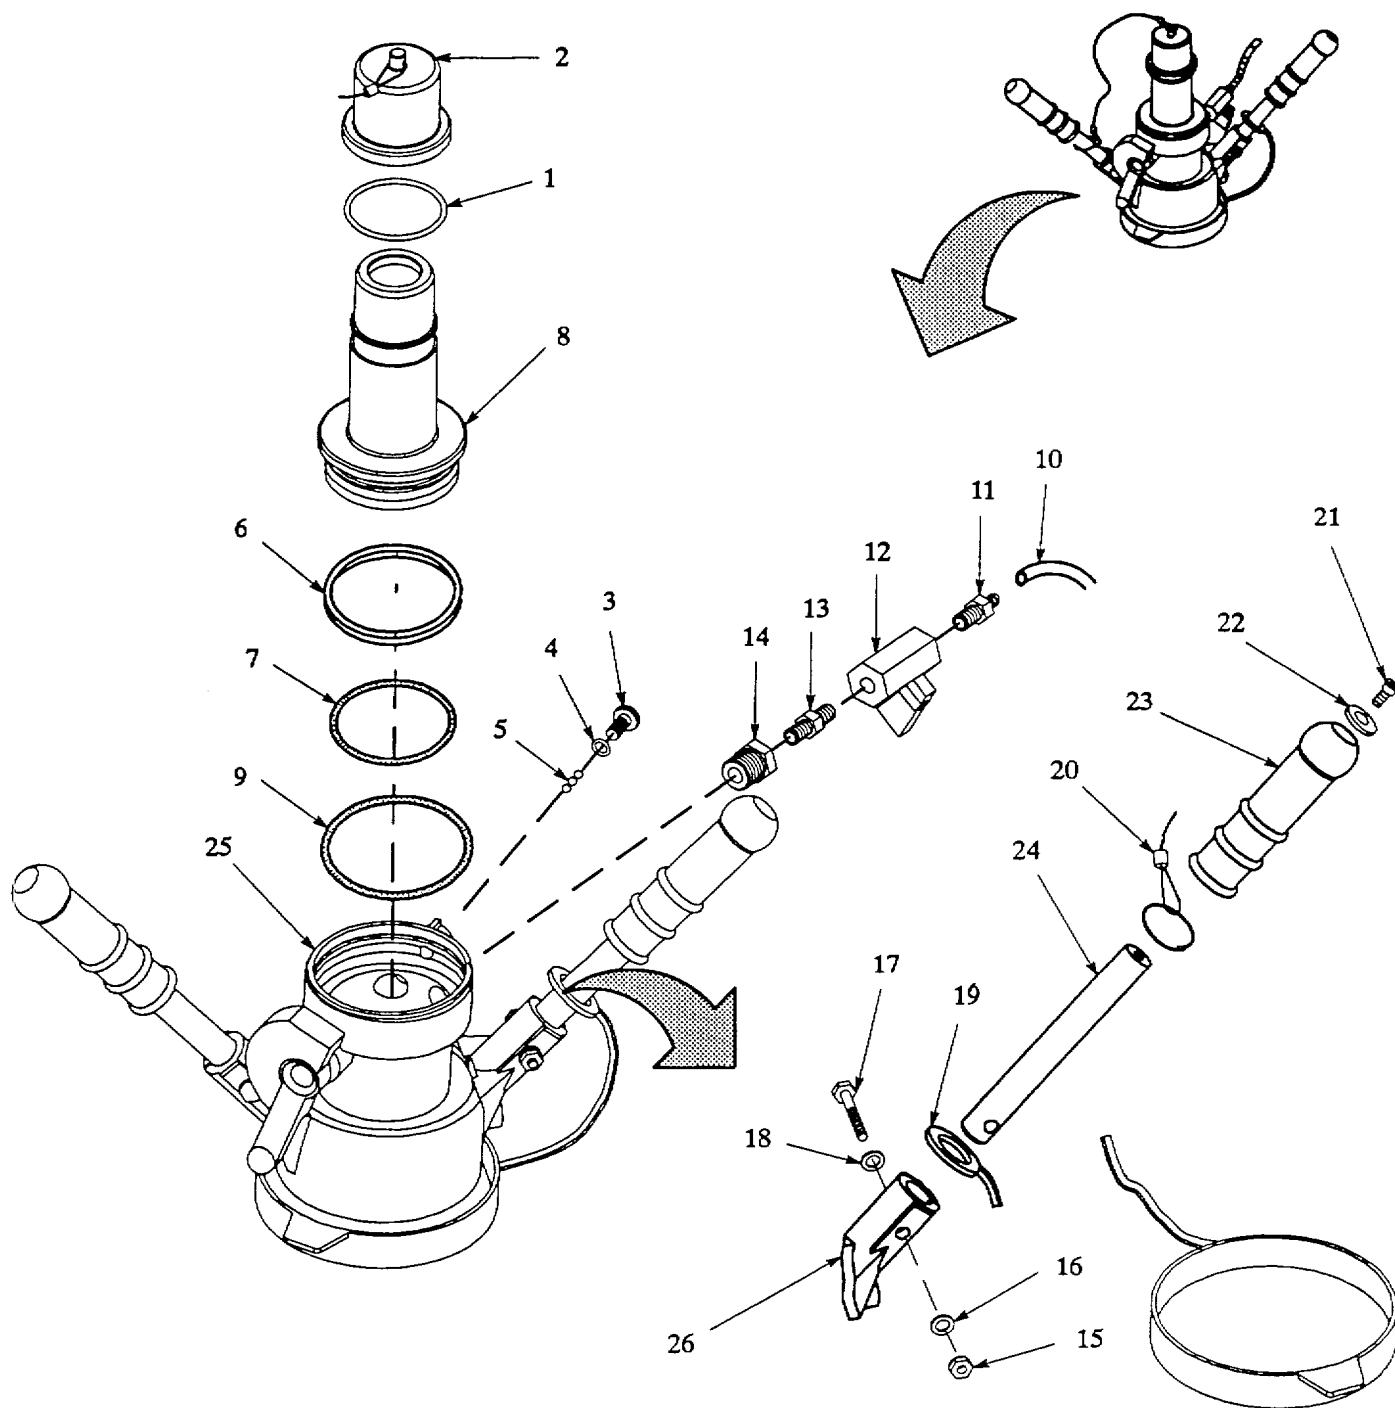

Figure 4-5. Recirculation Nozzle Assembly.
c. Inspection. Refer to figure 4-5.
- (1) Inspect inlet adapter (8) for cracks. Check for scratches and abrasion at all sealing surfaces. Push in on check valve mounted inside dust cap end of adapter. Valve should move off seat without sticking and seat against adapter end when released.
- (2) Inspect body (25) for cracks, corrosion and damaged or missing parts.
- (3) Inspect ball valve (12) for damaged or missing control handle. Valve should operate smoothly without sticking or jamming.
- (4) Inspect collar (26) for cracks and corrosion.
e. Assembly. Refer to figure 4-5.
- (1) Push grip (23) onto handle (24).
- (2) Install flat washer (22) and self locking socket screw (21) in grip (23).
- (3) Remove handle (24) from vise.
- (4) Slide cap (19) and wire ring (20) onto handle (24).
- (5) Position handle (24) in collar (26) and install flat washer (18), screw (17), flat washer (16) and self locking nut (15).
- (6) Repeat steps (1), (2), (4) and (5) for other handle.
- (7) Apply anti-seize tape to male threads of reducer (14), coupling 1:13) and barb (11).
- (8) Install coupling (13), ball valve (12) and barb (11) on reducer (14).